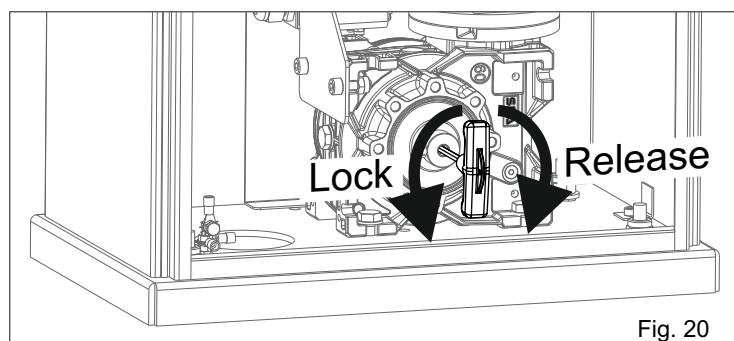

Fig. 20
- Insert the delivered red release key and **turn it clockwise until it stops, do not force** (Fig.20).
- Turn the red release key **anti-clockwise until it stops, do not force** (Fig.20).